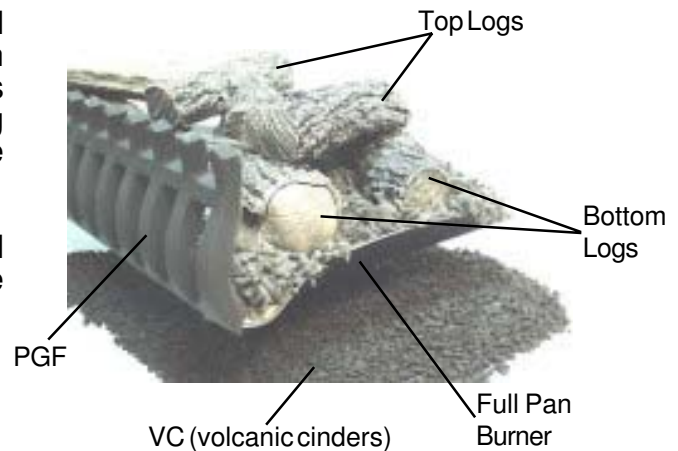

Figure 6
1. The two longest logs are the **bottom logs**. They should be placed directly on top of the ember bed. The bottom logs can either be positioned on their edge with the flat unfinished sides toward the middle of the pan, or with the flat unfinished side facing down in the sand. Allow 2 to 3 inches of space between the bottom logs. (Fig. 6)
1. The black **volcanic cinders** are used to cover the fireplace floor, fittings and tubing around the burner system. Although not functional, the black cinders act as a picture frame to show off the glowing embers and yellow flame. (Fig. 6)